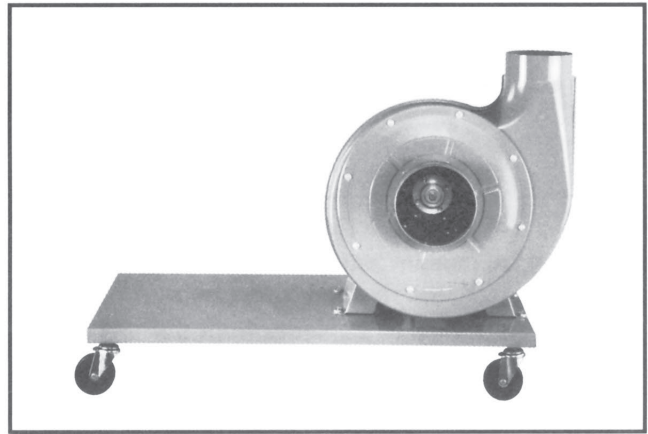

Fig. 3
3. Attach inlet cover to fan housing using eight pan head screws (M6x12). (Fig. 3).